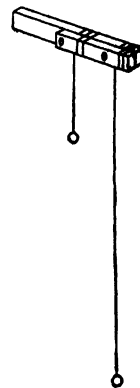

FIG 26
**I. To find whether or not the time of swing is different for different amplitudes and different weights.** (a) Attach with sealing wax a small weight — preferably, a steel ball about  $\frac{3}{4}$  in in diameter — to a fine thread about 180 cm long, and suspend it in a wooden clamp with square jaws, like that shown in Fig 26